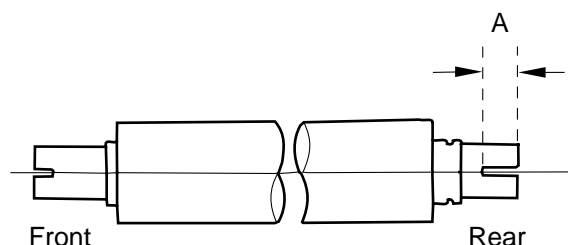

Figure 6-221
- a. Install it so that the side whose section A shown in Figure 6-221 (notch) is longer is toward the rear.